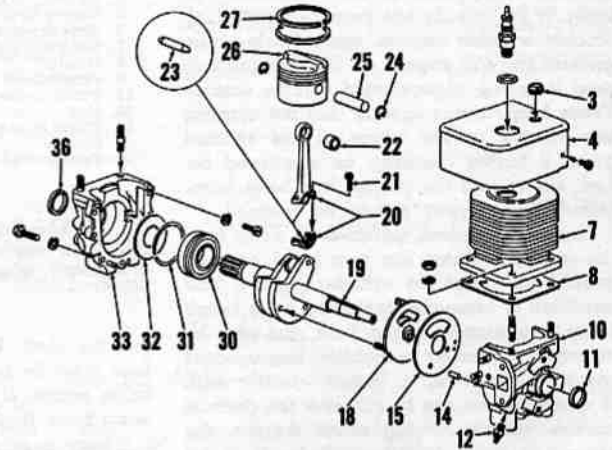

Fig. HL50—Exploded view of engine used on model 20DP3. Other model 20 engines are similar in construction.
**GOVERNOR.** All are equipped with rotary type inlet valves. The governor is a centrifugal type and is an integral part of the rotary inlet valve as indicated in Fig. HL45. On models so equipped, Formica wear plate (15—Fig. HL50) is pinned to the engine crankcase with opening in wear plate in register with intake opening in crankcase. On all models, the inlet opening in the valve plate (IV—Fig. HL45) is controlled by the combination shutter and governor weight (GW) which when the engine is stationary, is held in the open position by spring (GS). When engine speed exceeds the designed limit, centrifugal force acting on the weight overcomes the opposing spring pressure and partially covers the manifold opening and thus throttles the engine. As the throttled engine slows down, centrifugal force diminishes and the spring again uncovers the opening to restore engine speed.
If main bearing bores have a lapped appearance, the bearing has been turning in the crankcase in which instance the bearing and/or the crankcase should be rejected. On models so constructed, the mating surfaces of two-piece crankcase (Fig. HL50) must be free of all nicks and burrs as neither sealing compound nor gaskets are used at this joint.